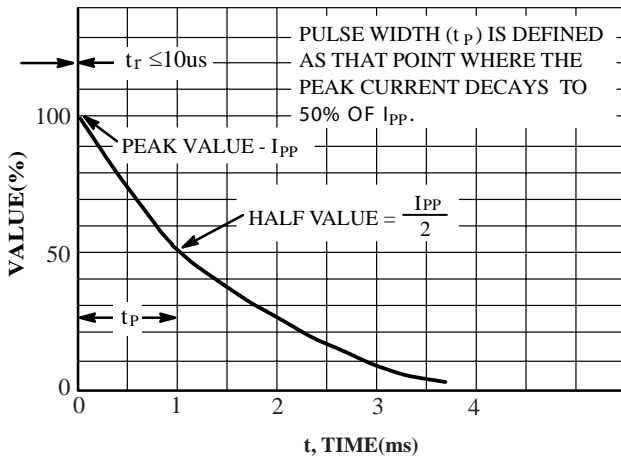
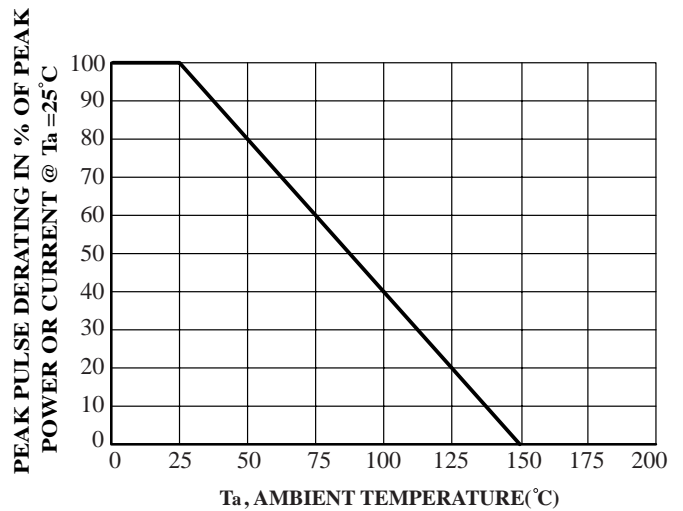

FIG.5 Pulse Waveform
FIG.6 Pulse Derating Curve
NOTE: 1. Non-Repetitive Current Pulse, per FIG 5 and Derated above $T_A = 25^\circ\text{C}$ per FIG 6.
- Surge current waveform per Fig 5 and derate per Fig 6